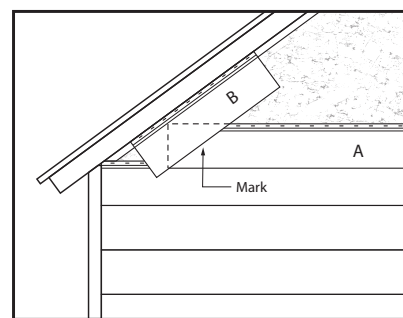

Figure 5.3.2
- Hold or secure a scrap piece (piece A) as you would in the next row, butting the corner to the soffit, pressed into the upper J-Channel following the soffit/roof line angle. Using a second scrap piece (piece B) held parallel to the soffit J-Channel and over the first scrap piece, mark the slope on siding scrap piece A. (Figure 5.3.2)